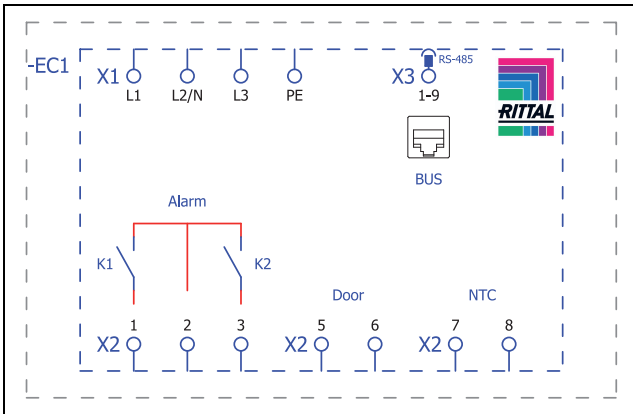
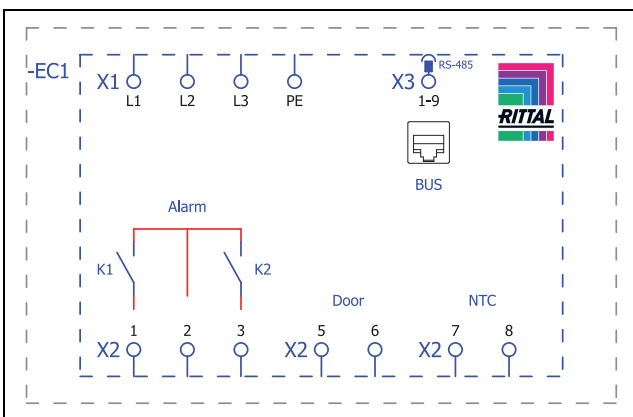

Fig. 37: Circuit diagram SK 3185330, SK 3186330, SK 3187330
Fig. 38: Circuit diagram SK 3188340, SK 3189340
- Remove the mains connector from the dispatch bag and connect to the mains as shown on the connection diagram (fig. 37 or fig. 38).